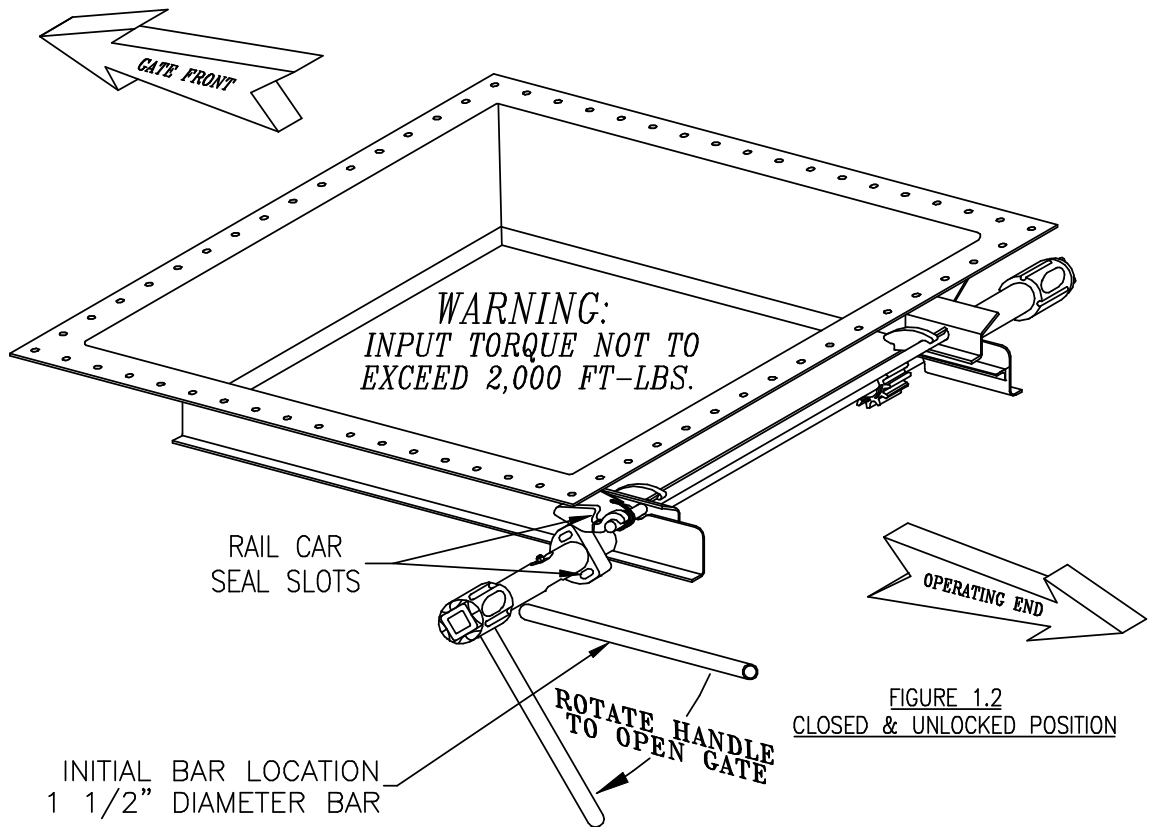

FIGURE 1.2
9. ROTATE HANDLE AS SHOWN IN FIGURE 1.2 TO VERIFY LOCK OPERATION.